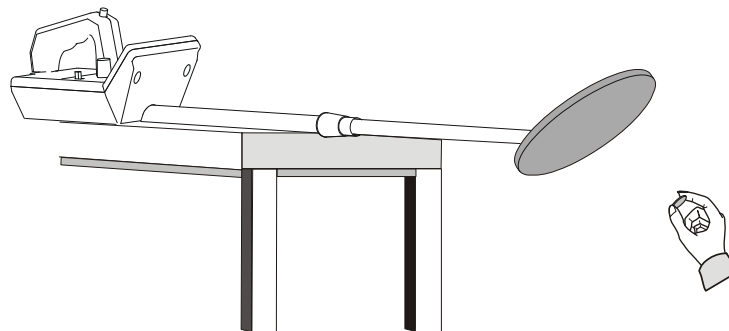

Figure.6
- Place the detector on a wooden or plastic table. Let the search coil exceeds the table edge about more than 15cm.(Fig.6)